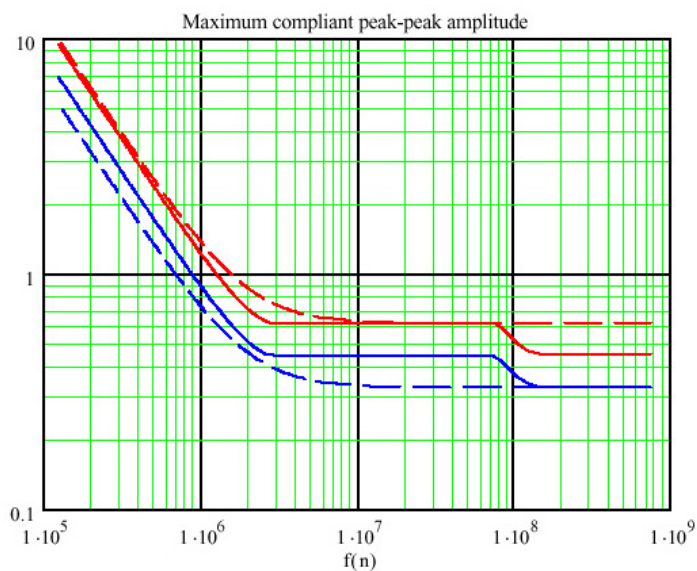
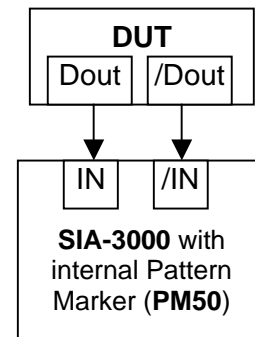

Figure 1. SATA Jitter Profile as a Function of Frequency (Red line is at receiver input, Blue line is at the driver output, and the Dotted line is Margin).
Figure 2. Measurement Setup.
The SATA standard defines a jitter generation specification profile as shown in Figure 1. This profile defines 3 points. The three points are the values defined in Figure 2 as 'n'. They are 5, 250, and 25,000. Dividing the bit rate by these values results in corner frequencies of 150MHz, 3MHz, and 30kHz. Table 1 also shows amplitudes of acceptable jitter at each of these compliance points referenced as the 'A' value. *WAVECREST* provides a complete jitter testing solution for this entire range, which will be described in the next section.
The jitter profile in Figure 1 shows two distinct frequency regions. There is the section above 3MHz ($n \leq 250$) and the section from 3MHz to 30kHz ($250 \leq n \leq 25000$). For the section from 3MHz and up to the Nyquist frequency (750MHz), the jitter components that will be measured to obtain an accurate Total Jitter (TJ) are Random Jitter (RJ), Duty Cycle Distortion and InterSymbol Interference (DCD&ISI) or Data Dependant Jitter (DDJ), and Periodic Jitter (PJ) including contributions from the spread spectrum clock. These jitter components are described in the Fibre
The requirements for this tool are a known pattern and a pattern marker (See the SATA spec for test patterns). The pattern marker can be used from a signal generator (pattern trigger from a BERT), the internal PM50 card of the SIA-3000 (Figure 2), or from the *WAVECREST* AG-100. The setup of the AG100 is described in the “AG-100 Quick Reference” guide^[2].
This completes the Jitter Output measurements described in Figure 2 (Driver output, Driver PCB Connector, Receiver PCB Connector). For the 'Receiver Input' section of Figure 2 (Jitter tolerance), follow the above instructions for each compliance point to measure the amount of jitter being added to the signal before you apply it to the receiver to insure full jitter compliance.